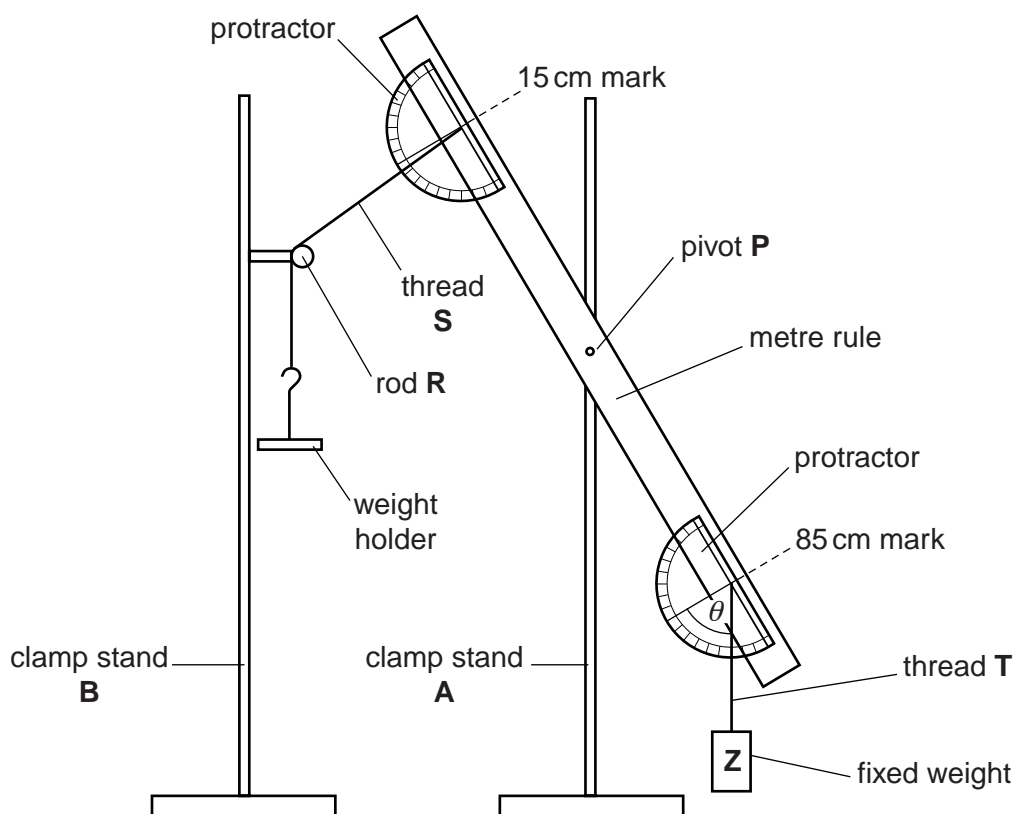

Fig. 1.1
- one rod (a reversed clamp will suffice); this is labelled **R** on Fig. 1.1 (see note 10)
- 1 Each set of apparatus should be set up by the Supervisor as shown in Fig. 1.1. There should be no extra weights on the weight holder, and the thread **S** should **not** be perpendicular to the rule.
Remove weights from the weight holders. Reset all sets of apparatus as described in note 1 and shown in Fig. 1.1.